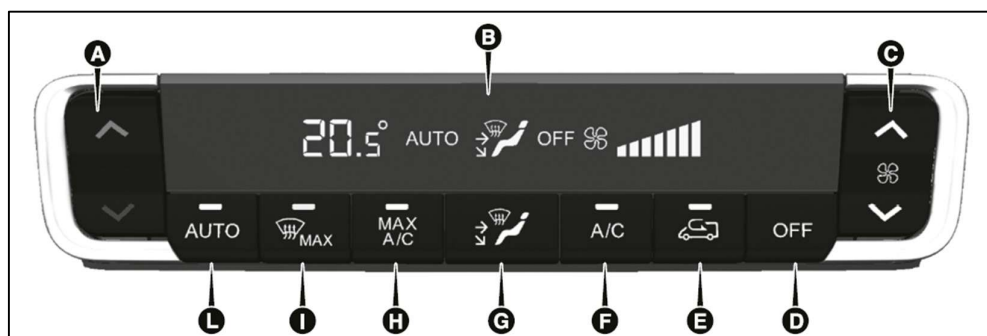

Fig. 6
- Press AUTO (L) and set the desired temperature using Button (A) fig. 6
Press Button **(G)** fig. 6 to select the air distribution mode:
- Press **(E)** fig. 6 to toggle air recirculation.